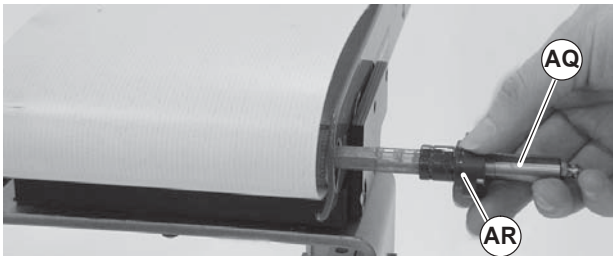

Figure 26
- Pull outboard drive shaft (Figure 26, item AQ) and outboard bearing retaining sleeve (AR) from drive pulley.